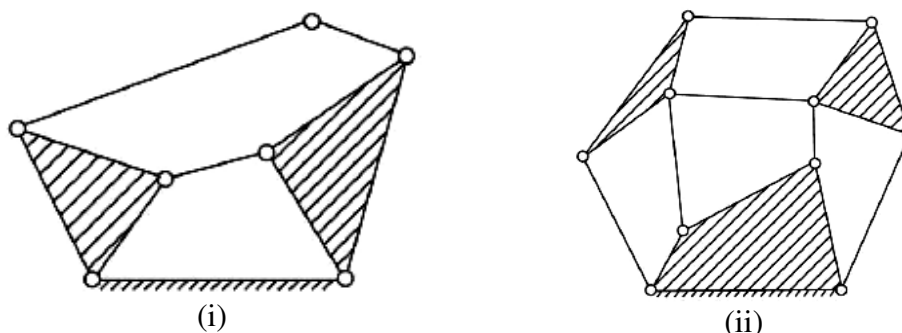

Fig: 2(a)
- 2 a) For the kinematic linkage shown in the fig:2(a), determine the degrees of freedom (F). [7M]
- b) A Whitworth quick return motion mechanism, as shown in the fig:2(b), has the following particulars: [7M]